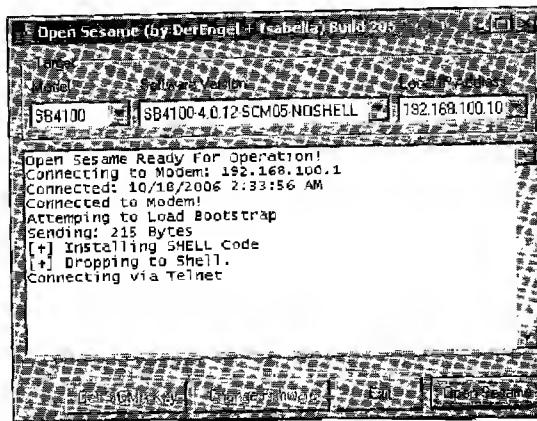

Figure 18-3: Open Sesame connecting to an SB4100 modem
3. The software should automatically send the overflow buffers into the modem, start the telnet shell, connect your PC to your modem (as shown in Figure 18-3), and run several shell commands that force the modem into debugging mode, thus halting all internal processes. Figure 18-3 shows Open Sesame sending the buffer overflow and connecting to the telnet daemon.